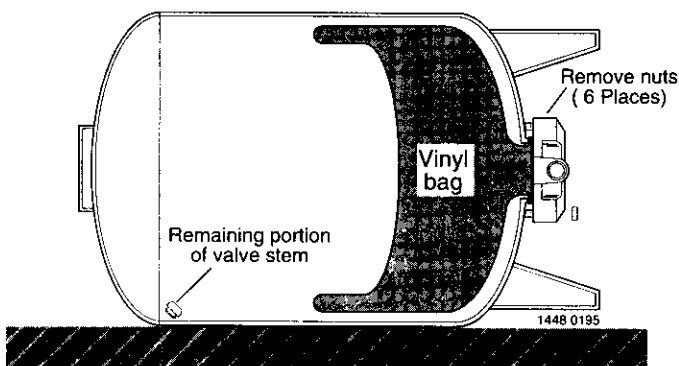

FIGURE 11
6. Lay tank on side and remove six (6) nuts from studs. Tap cover to break seal and remove cover assembly from tank. You can now see the vinyl bag. See Figure 11.